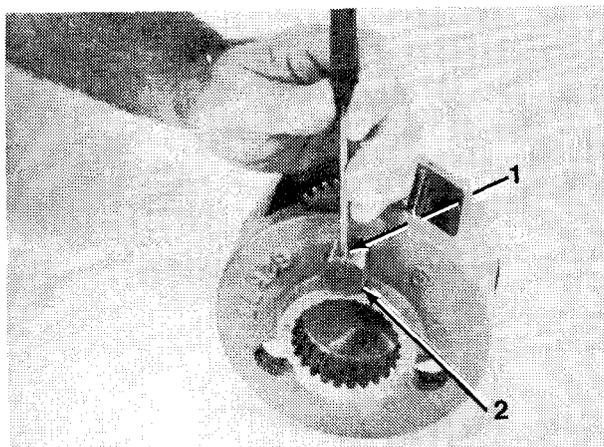
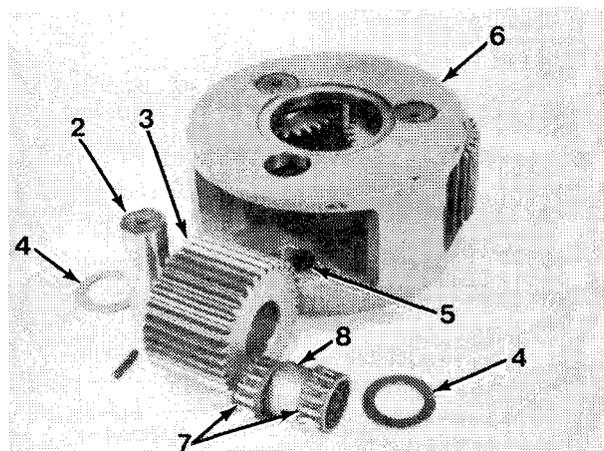

Figure 16-2
Figure 16-3
2. Drive three gear shafts (2) out enough to remove three rollpins (1, Figure 16-2).
3. Remove and discard three rollpins (1).
4. Remove three gear shafts (2), planet gears (3), six bearing races (4) and output thrust plate (5) from output planet carrier (6, Figure 16-3).
5. Remove two roller bearings (7) and bearing spacer (8) from each of three planet gears (3).